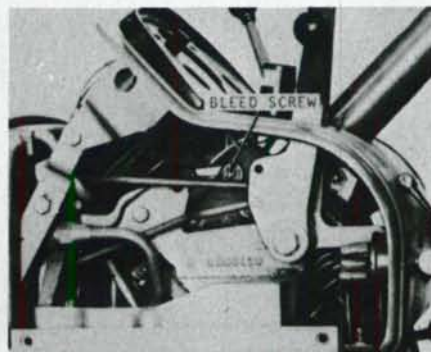

Fig. 8—Cowling removed to show steering valve bleed screw. Refer to paragraph 7 for procedure.
7. To bleed the steering system, first remove the cowling and attach a small transparent hose from bleed screw (Fig. 8) on left side of steering valve housing. Bleed hose should be long